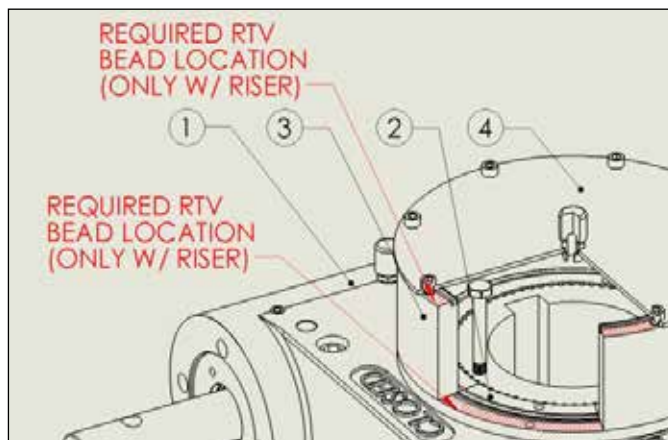

Figure 1: Static riser/indicator cover configuration (typically buried service application).
- Figures 1, 2, and 3 show different indicator configurations.